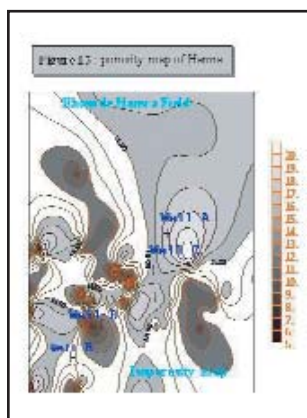
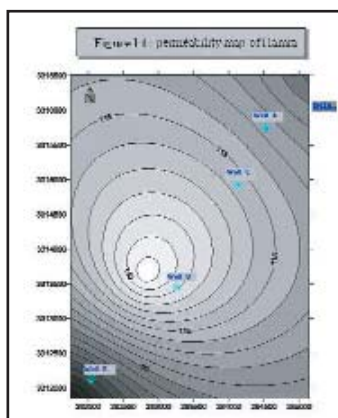

Figure 13: Porosity map
Figure 14: Permeability map
**Lateral variations of porosity and permeability:** As shown in the porosity (fig 13) and permeability (fig 14) maps, the porosity and permeability generally increase from SW to NE.
The contour maps of petrophysical parameters (Figures 13 and 14) can be used to select locations of future wells.